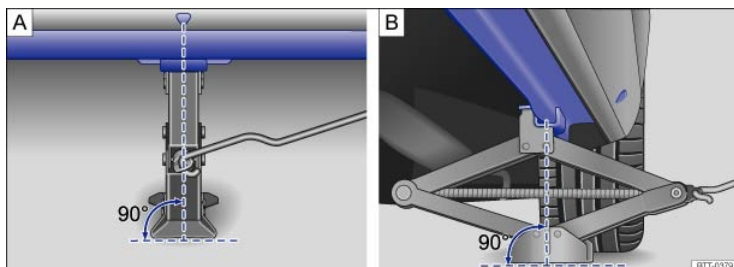

Fig. 198 Jack in position at the left rear lift point.
- Position the jack only at the described vehicle lift points. Before you raise your vehicle, always make sure the jack claw properly grips the vertical rib under the sill so that the jack does not slip off when you are raising the vehicle ⇒ Fig. 198.